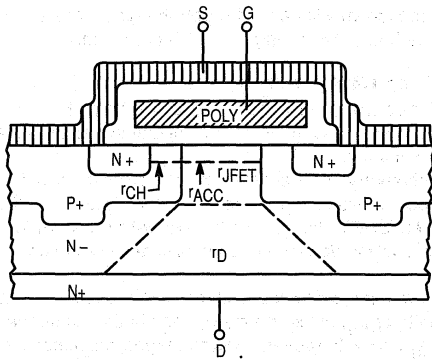

Figure 1-7. TMOS Device On-Resistance
When a gate voltage of appropriate polarity and magnitude is applied to the gate terminal, the polysilicon gate induces an inversion layer at the surface of the diffused channel region represented by r_{CH} in Figure 1-7 (page A-8). This inversion layer or channel connects the source to the lightly doped region of the drain and current begins to flow. For small values of applied drain-to-source voltage, V_{DS}, drain current increases linearly and can be represented by Equation (1).
Threshold voltage is the gate-to-source voltage required to achieve surface inversion of the diffused channel region, (r_{CH} in Figure 1-7) and as a result, conduction in the channel.
On-resistance is defined as the total resistance encountered by the drain current as it flows from the drain terminal to the source terminal. Referring to Figure 1-7, R_{DS(on)} is composed primarily of four resistive components associated with: